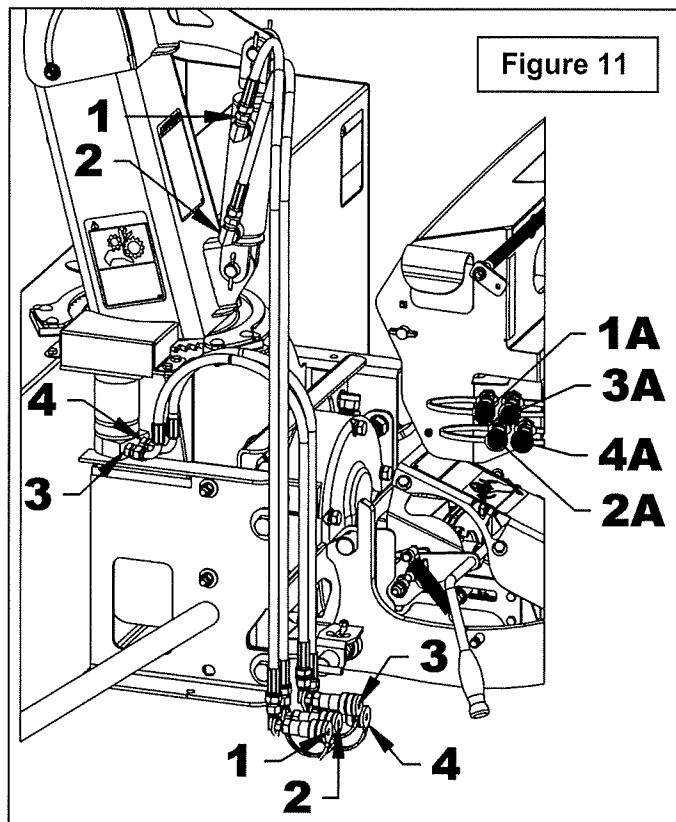

Figure 11
11. **Figure 11:** Connect the female hydraulic couplings of the snowblower hoses (items 1 to 4) to the male hydraulic couplings (items 1A to 4A) of the vehicle hydraulic unit in the order shown in figure 11. Ensure that the color rings correspond to those of the vehicle hydraulic unit. If this is not the case, reverse the color rings of the hoses.